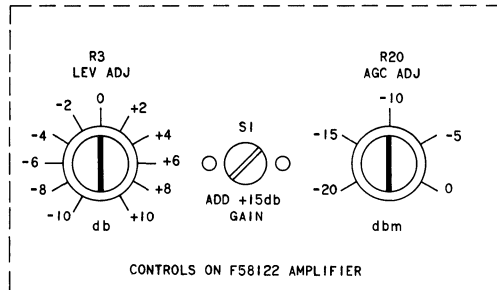

Fig. 6—Adjustment Controls on F58122 Automatic Gain Control Amplifier
7.02 Adjustments: Gain adjustments are made by means of the LEV ADJ control (R3) and switch S1 (see Fig. 6). The combined setting of these two controls provides a range of –10 to +25 dB gain. The setting of the AGC ADJ control (R20) determines the points at which clamping of the amplifier output begins. The range of the AGC ADJ control is from 0 to –20 dBm. Before making adjustments, refer to the circuit order card to determine the TLP at the input and output of the amplifier. With an input signal 10 dB below the input TLP of the amplifier, the amplifier gain must be adjusted (using LEV ADJ and S1 as required) to provide an output level which is 10 dB below the output TLP of the amplifier. The AGC ADJ control must then be adjusted to reduce the output of the amplifier by 3 dB (13 dB below output TLP). The following example shows the method of adjusting F58122 AGC amplifier for a typical input and output TLP.
- (j) Use the preceding method and refer to Fig. 6 to adjust the AGC amplifier for other TLPS.
1.02 This section is reissued to include information on the KS-20944 protector, to add Fig. 6, 7, and 8, and to change Fig. 4 and 5.